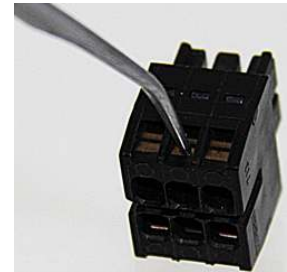

Figure 414: Power Terminal Block CEP001
1. Using the power cord, attach the power supply to the power terminal block as diagrammed in Figure 414.